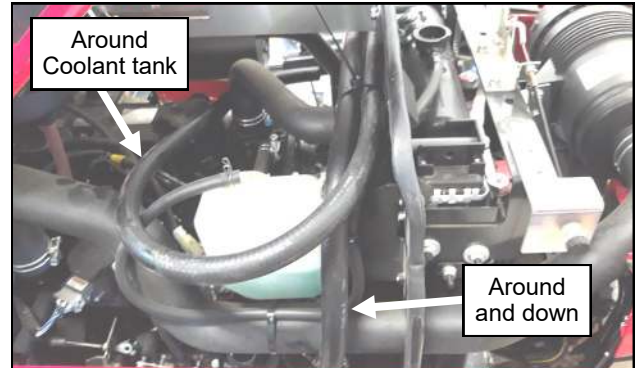

Figure 20.3 (Right Side of Engine Bay)
- 20.3** Run one leg of the hose out and around the air intake tube and down to the lower radiator hose. Make sure the hose has enough slack throughout its run across the radiator so that it will not contact anything sharp above or below, and cut the leg of hose to length at the lower radiator hose. See Figure 20.3.
- 20.4** Place a clean drain pan under the radiator hose, cut the hose in the middle as shown in Figure 20.3, and let the coolant drain into the pan.